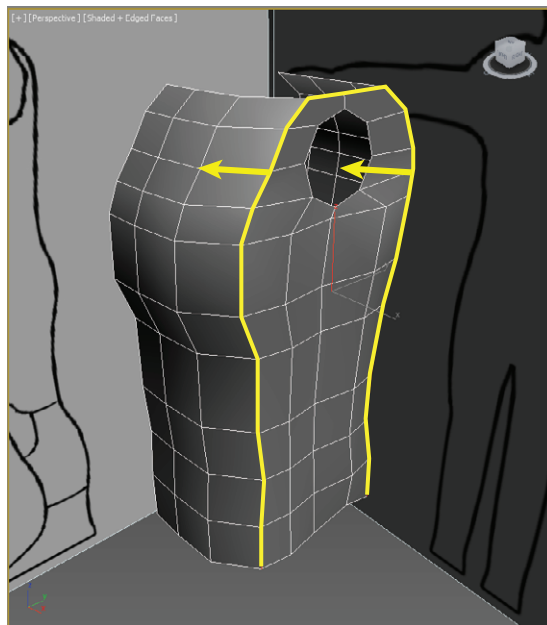

FIGURE 7.17 Select the edge loops and move them to create a more rounded look to the model.
31. Select Edge mode, and then select the edge loops on the right of the model and move them in toward the center of the model, as shown in Figure 7.17.